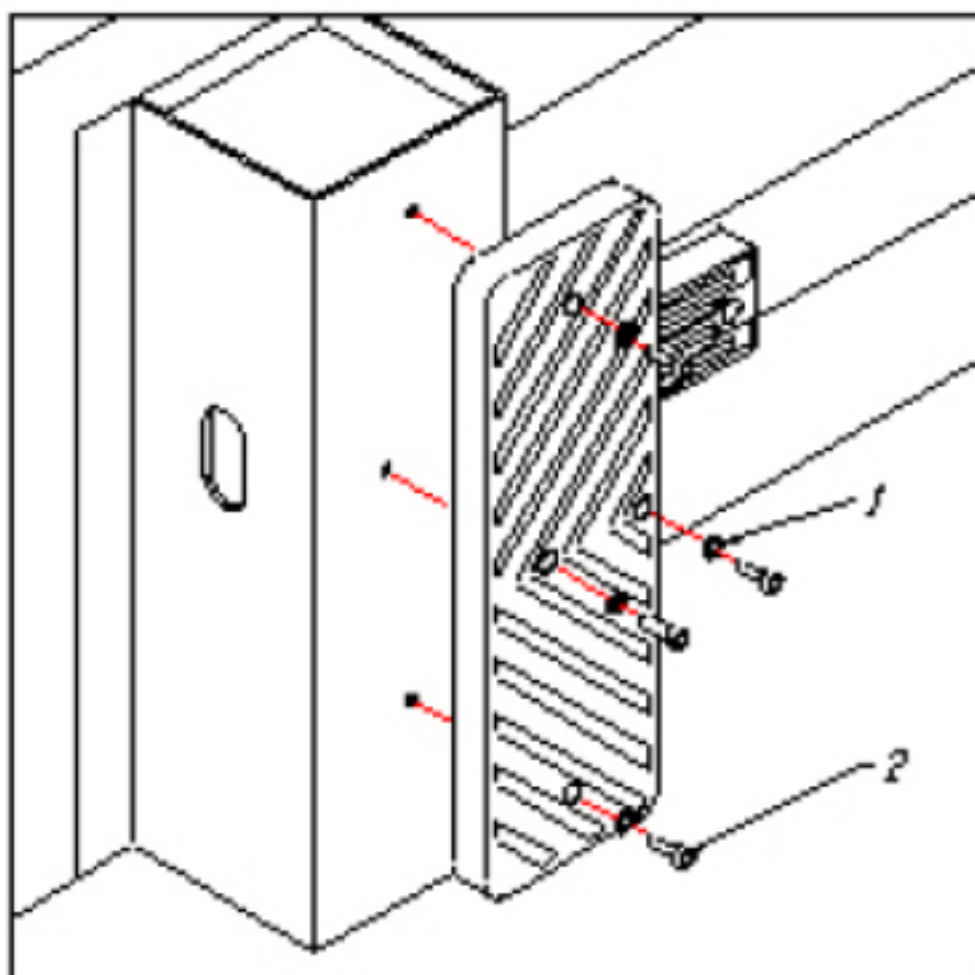

Figure 2-4
1. Set the bead breaker pad to position then install the screws (1), washer (2) to the cabinet base. (Figure 2-4).